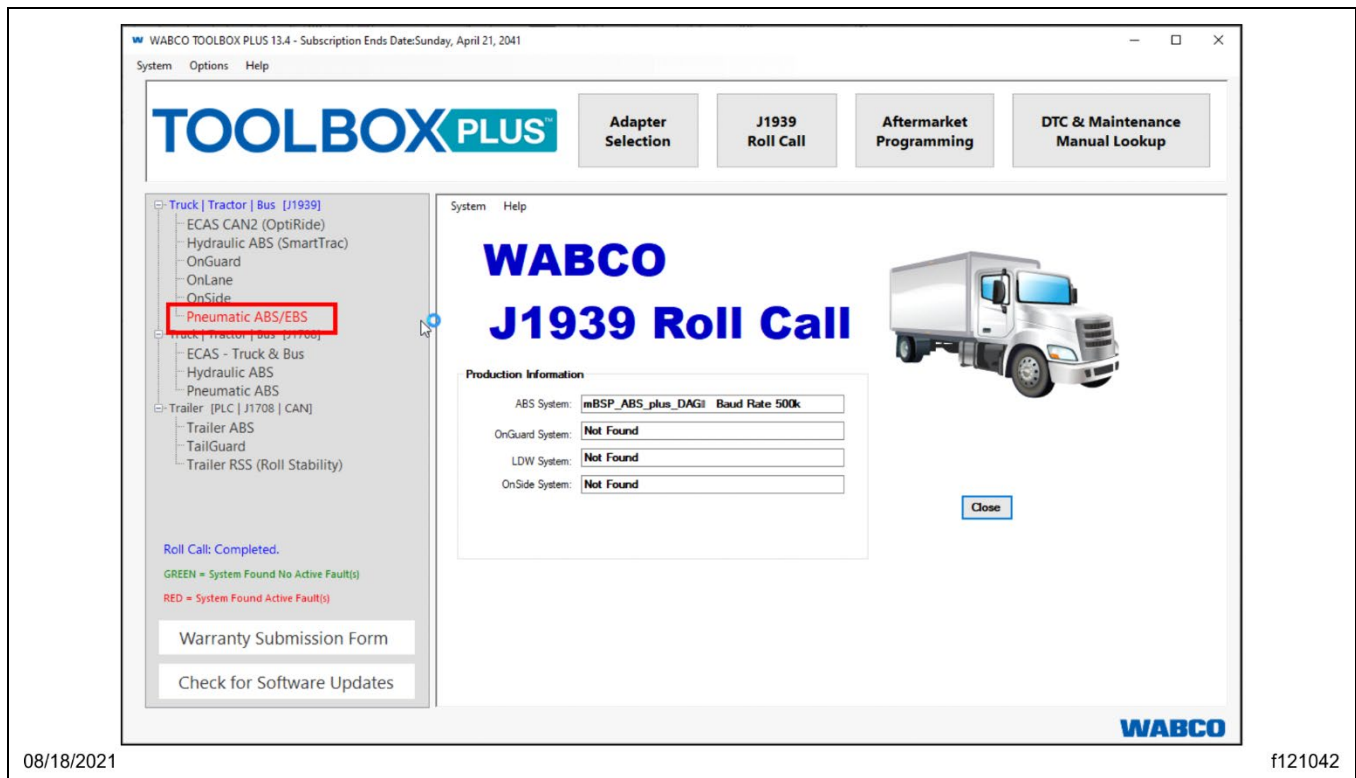

Fig. 62, WABCO TOOLBOX Window
20. Save a parameter file from the ECU as proof that the parameter update has been successfully completed, and add it to the vehicle repair order. This can be done in WABCO TOOLBOX. Launch the TOOLBOX software and select 'Pneumatic ABS/EBS.' See Fig. 62.